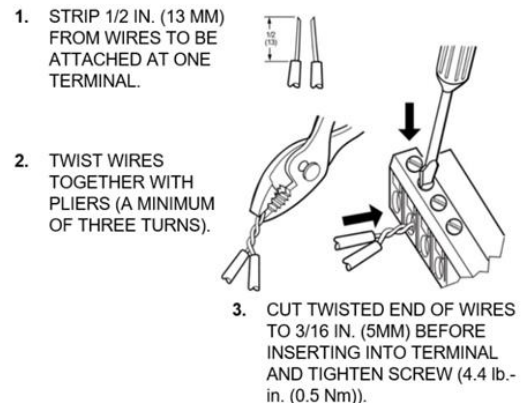

Fig. 16. Attaching two or more wires at terminal blocks
- When attaching two or more wires to the same terminal, other than 14 AWG (2.0 mm²), be sure to twist them together. Deviation from this rule can result in improper electrical contact (see Fig. 16).
- If two or more wires are being inserted into one terminal location, twist the wires together a minimum of three turns before inserting them (see Fig. 16).